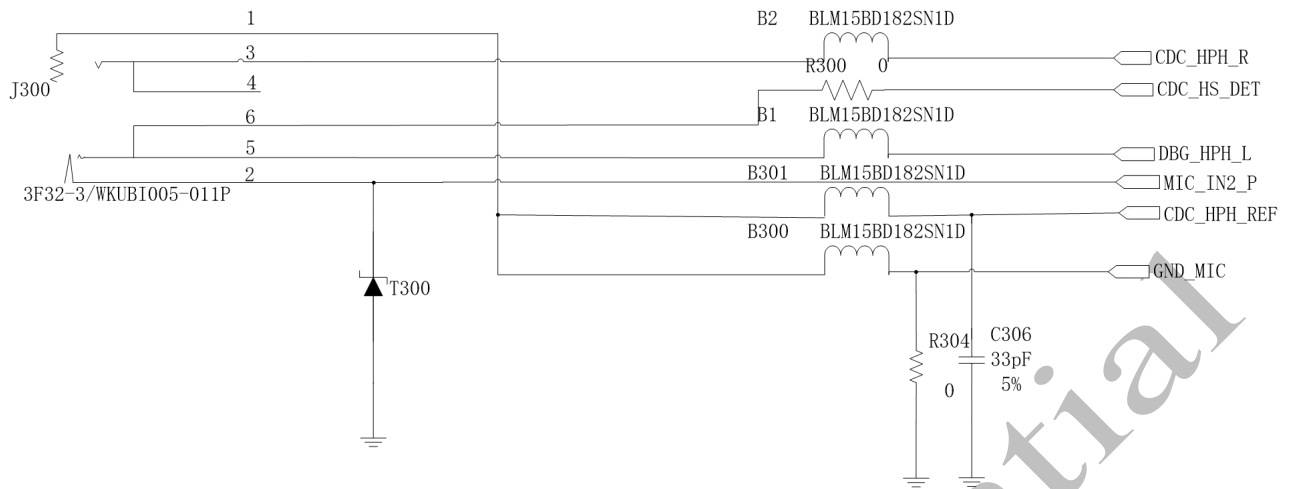

Figure 4.22: Headphone interface circuit
- 1.The earphone holder in Figure 4.22 is normally closed. If the user is using the normally open mode earphone holder, please modify the detection circuit according to the actual pin and modify the software accordingly.